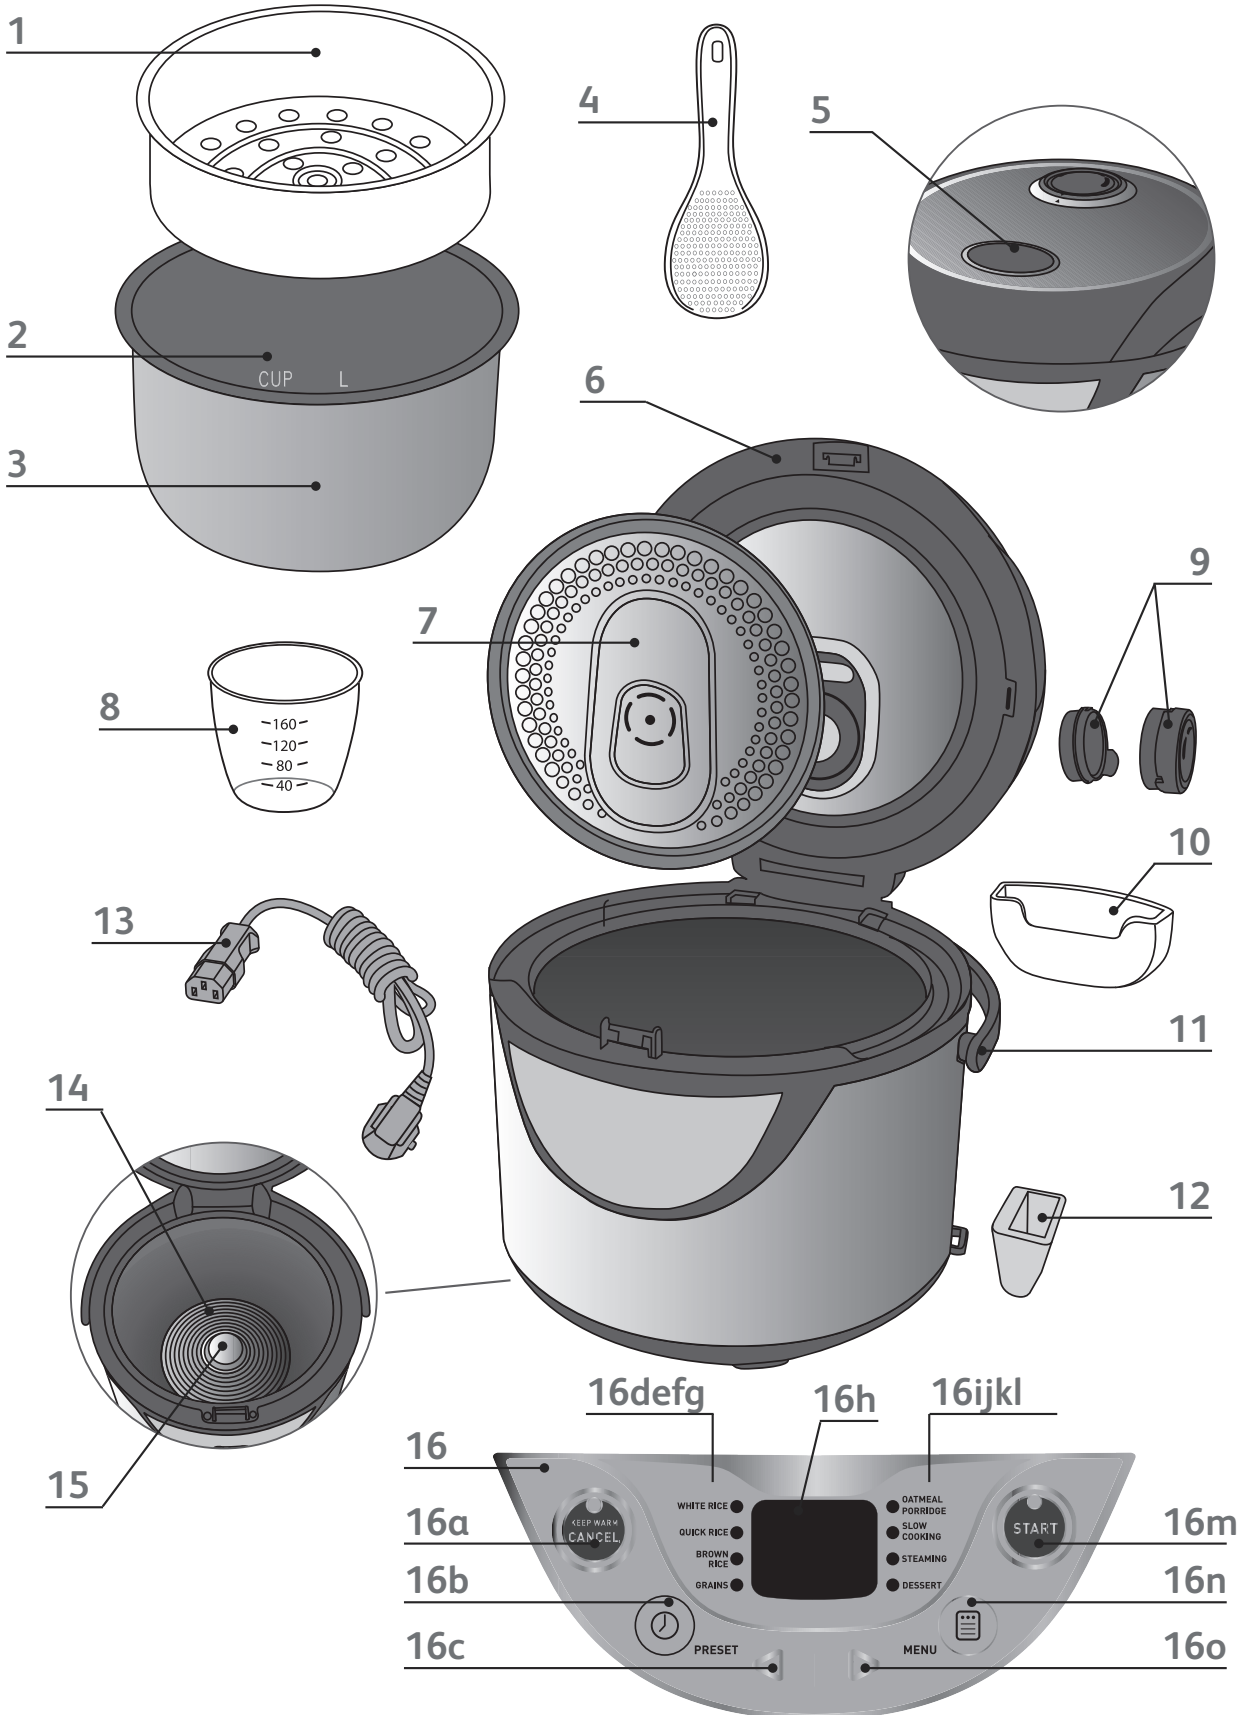

FIG.1
- Open the lid by pressing the opening button located on the lid – **Fig.1**.